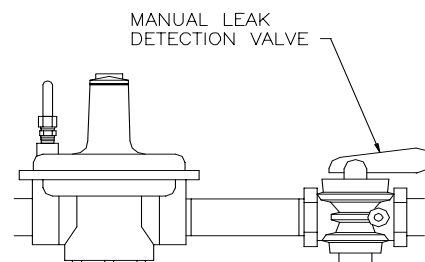

Figure 6.4
3. Close the manual leak detection valve located between the safety shut-off valve and the differential regulator (see Fig. 6.4).